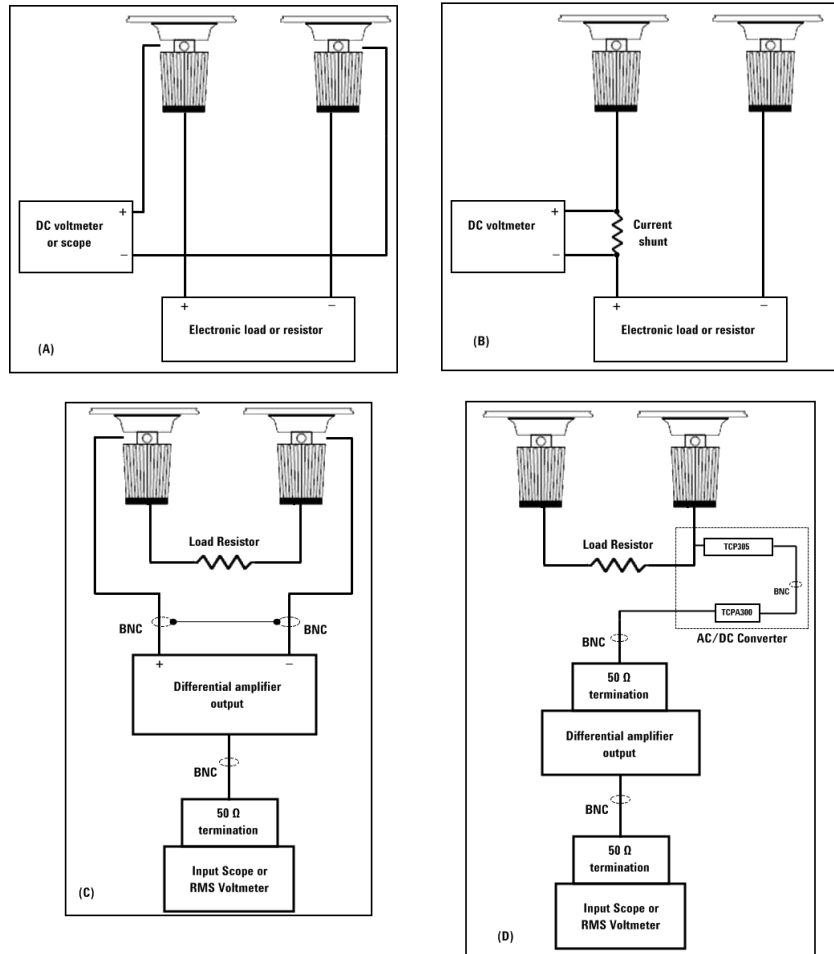

Figure 5-7 Test Setups
- 1 Power off the power supply and connect a DMM between the (+) and (-) terminals of the output to be tested. Remove the electronic load or resistor block as shown in Figure 5-7 \(A\), to operate as an open circuit.
- 1 Power off the power supply and connect a DMM between the (+) and (-) terminals of the output as shown in Figure 5-7\(A\).
- 1 Power-off the power supply and connect a DMM between the (+) and (-) terminals of the output to be tested as shown in Figure 5-7\(A\).
- 1 Power off the power supply and connect the output to be tested as shown in Figure 5-7\(C\) to a differential amplifier and load resistor (10 Ω for U8001A and 6 Ω for U8002A)
- 1 Power off the power supply and connect the output to be tested as shown in Figure 5-7\(A\) with an oscilloscope. Operate the electronic load in constant current mode.